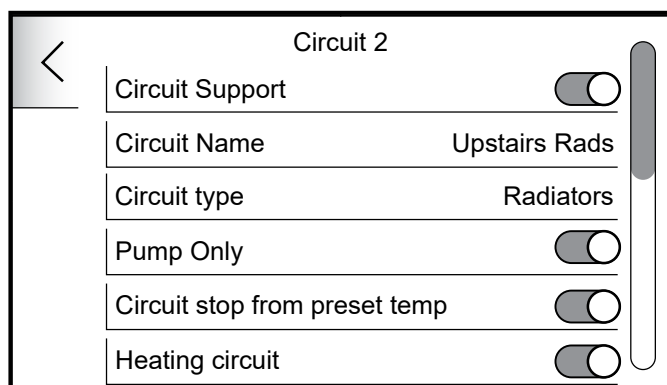

Figure 7-13: Edit Circuit 2 settings
4. Swiping the touchscreen display scroll down to 'Circuit stop from Preset temp'. Tap the icon to switch on. (Refer to Figure 7-13).